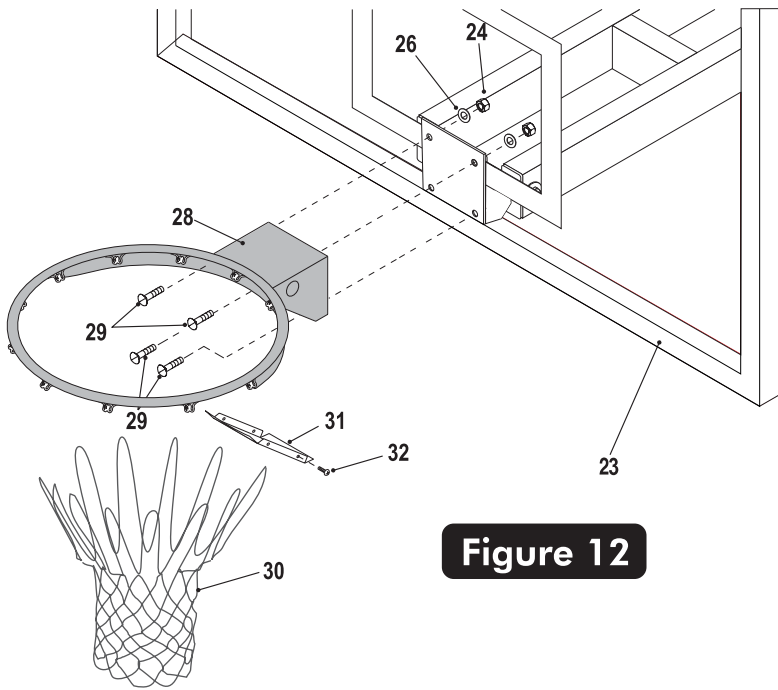

Figure 12
16. Mount Goal Assembly (#28) to Backboard as shown in **Figure 12**, using four bolts (#29), washer (#26) and four nuts (#24). Tighten Fasteners but leave loose enough to level rim.